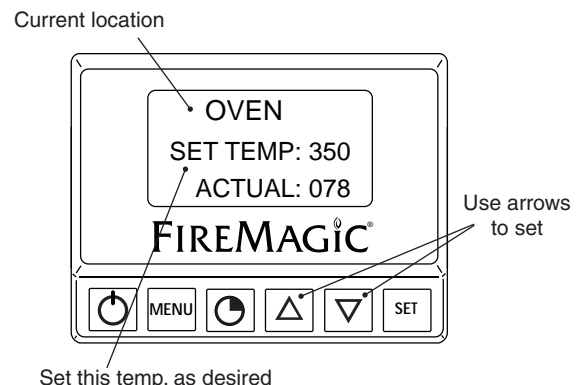

Fig. 18-4 Location temp. screen (oven shown)
2. The selected location's temperature screen will be displayed. Use the arrows to set the desired temp. The actual temp. will also be shown. (See Fig. 18-4)